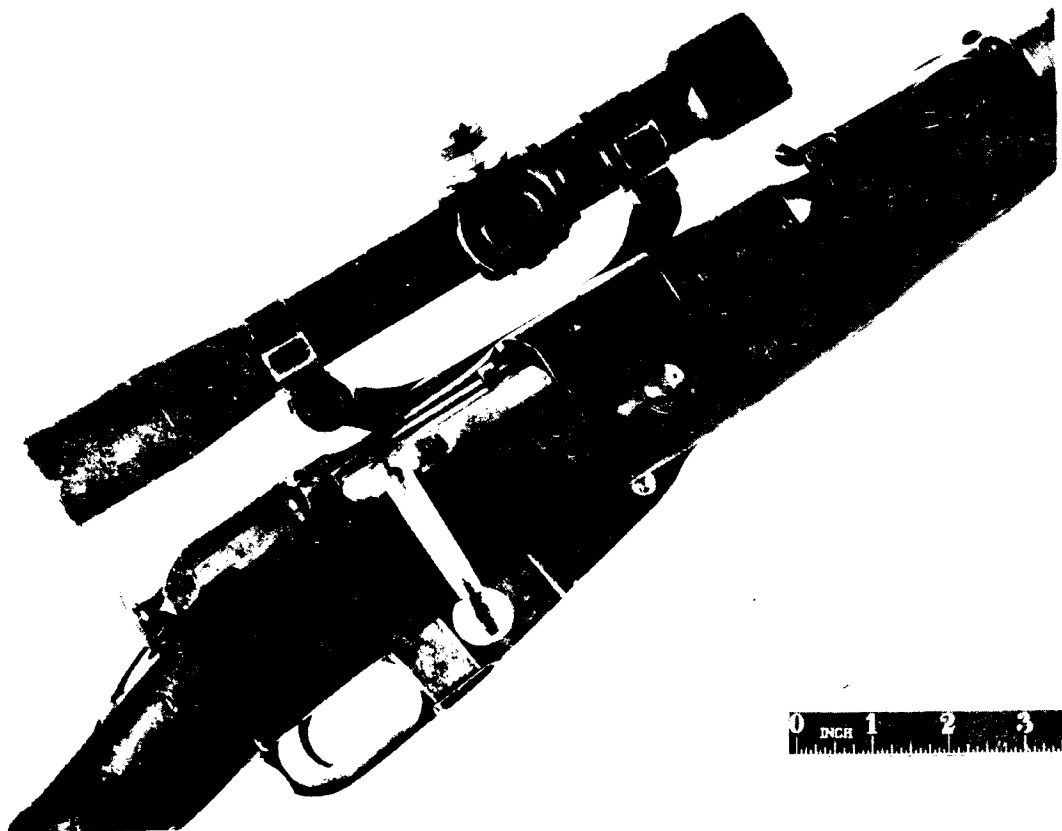

FIGURE 22. SNIPER RIFLE (MODEL OF TELESCOPE AND MOUNT UNKNOWN).
b. The bolt handle has been lengthened and bent down to prevent interference with the telescope (fig. 22).
- (1) The stock of the Dragoon rifle M1891 or rifle M1891/30. (The stock of the rifle M1891 also can be used, but will prevent attaching the bayonet.)
- NOTE: If the PU telescope mount is to be used, these stocks must be cut away so that the mount may rest flush against the receiver. (Use of the unidentified sight mount shown in figure 22 may likewise necessitate cutting away part of the stock.)
- (2) The bayonet of the rifle M1891/30.